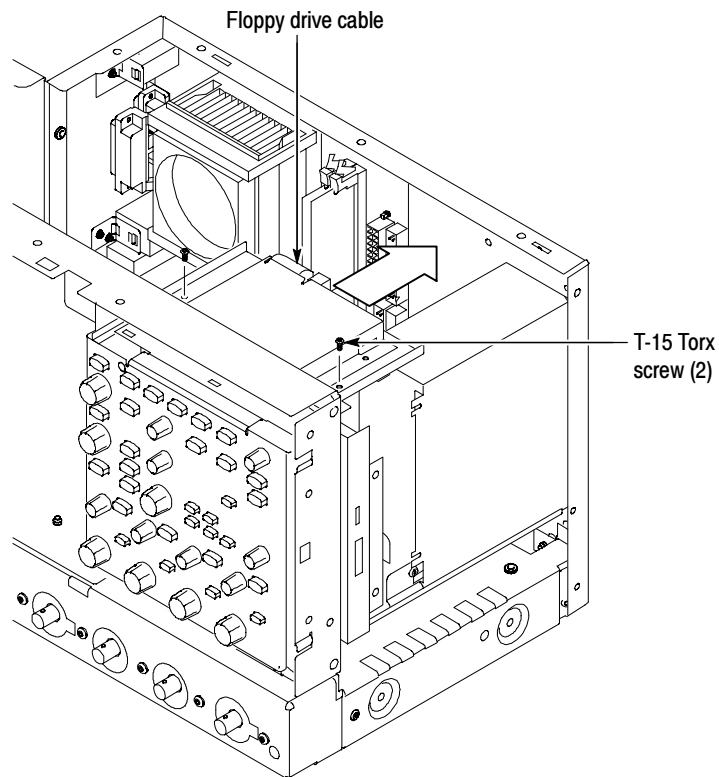

Figure 7: Floppy disk drive assembly removal
2. Use Figure 7 as a guide and remove the cable from the back of the floppy disk drive.